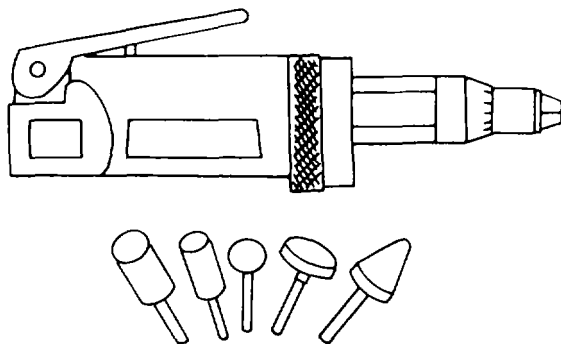

Figure 5-16. Pneumatic Grinder
a. Types. A typical pneumatic grinder is shown in figure 5-16. The grinders are rated by no-load speeds, which typically result in terms of light-, medium-, and heavy-duty loads being used to describe the grinder. The grinding stones come in numerous shapes and give versatility to the grinder.